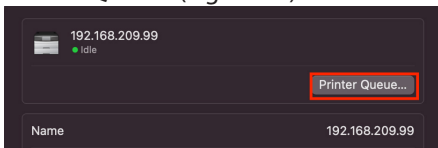

Figure 38
5. Click on **Printer Queue**. (Figure 38)